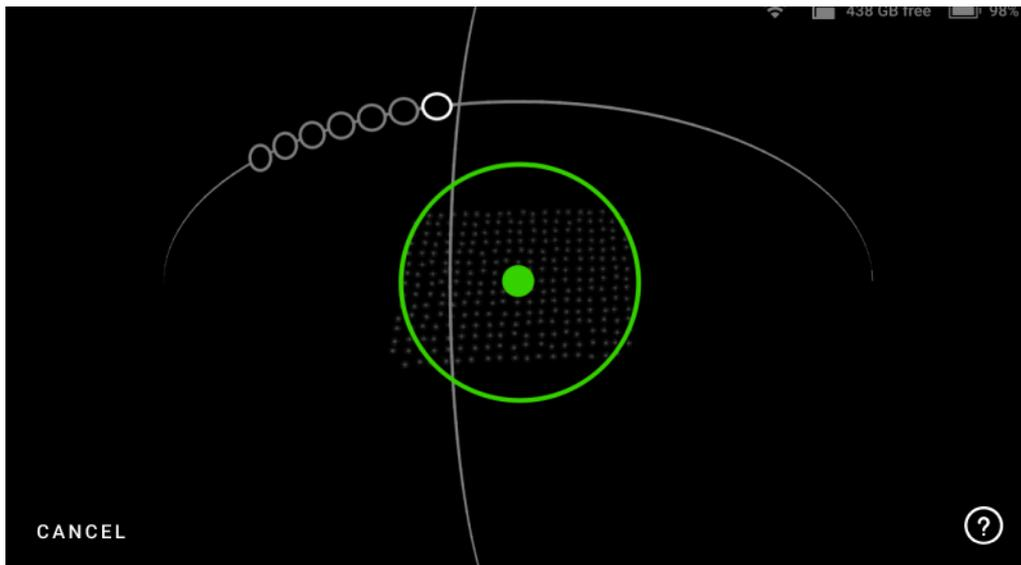

Figure 44: Green dot represents center of the Calibration board.
4. The green dot in represents the center of the *Calibration board*, and the green circle represents the *Calibration board*, i.e. your field of view (See Figure 44).